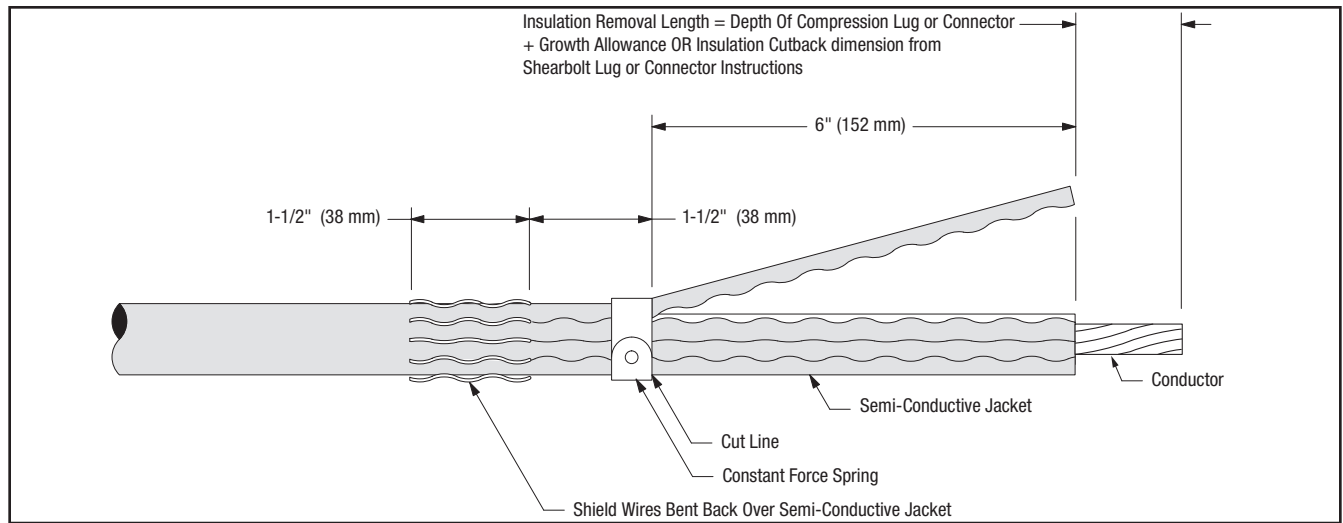

Figure 18
- 12.7 Remove semi-conductive jacket to dimension shown in Figure 18.
NOTE: To ease jacket removal, install constant force spring as shown in Figure 18 and ring-cut 80% through jacket. Remove jacket sections by pulling against constant force spring. DO NOT BELL SEMI-CON JACKET. Remove constant force spring.